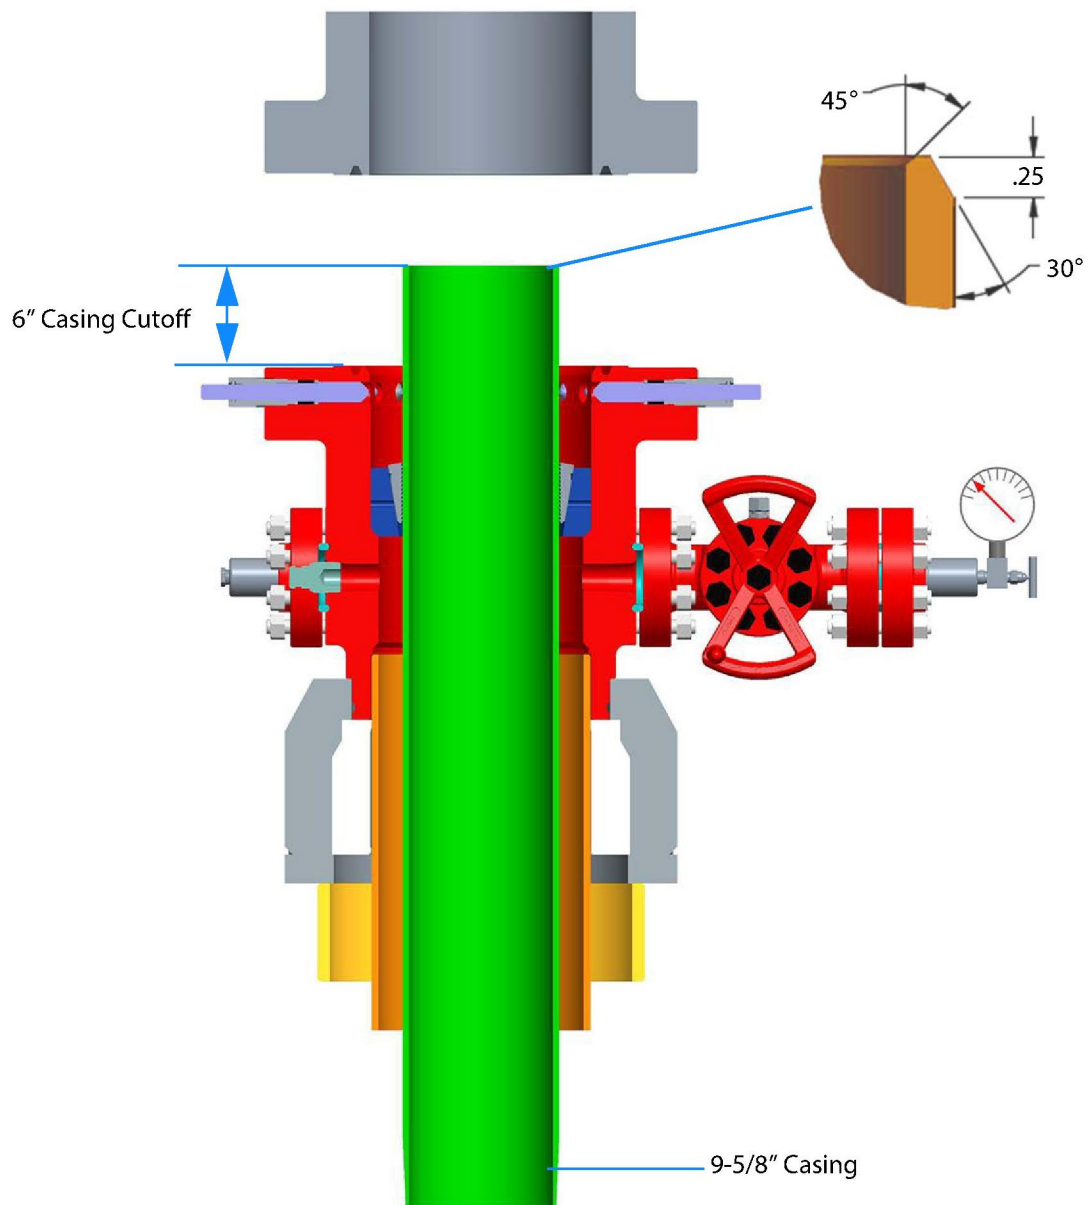

Figure 21
23. Bevel the casing OD and ID per Figure 21.